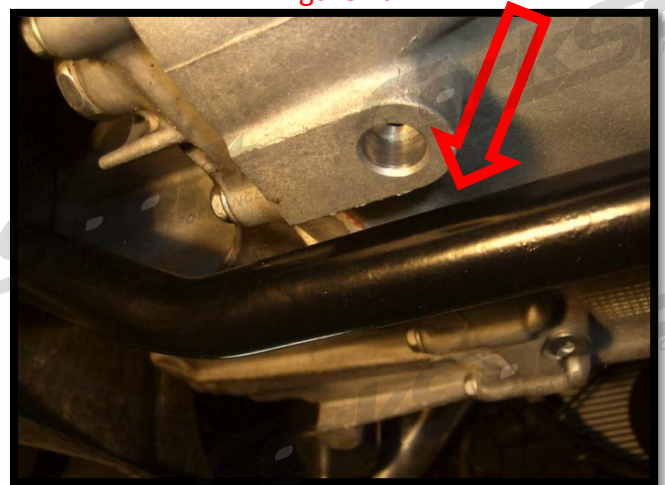

Figure 1b
c) Position the CorkSport Lower Arm Bar into place. Start by sliding the drivers side onto the bolt first then the passenger side. The bar will hit the transmission if you do this in the opposite order. Figure 1b shows the position relative to the transmission. The clearance is tight here so make sure the bar is seated all the way down to the bolts.